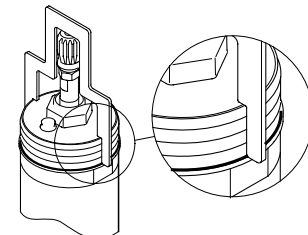

Fig. 22.
2. Screw the shaft end pos. 24 on to the motor shaft and push it home. Adjust the height to 88.15 mm \pm 0.2 mm by means of the measuring template I, see fig. 22.
4. Fit the supporting ring pos. 24a and the spline protector pos. 24b.
5. Fit the connecting piece pos. 14a and tighten using the pipe wrench N.
6. Fit the pump to the motor. The cable recesses in the suction interconnector pos. 14 and the connecting piece pos. 14a must be next to each other. Fit the four nuts pos. 19a and tighten diagonally to the correct torque, see 5.3.
8. Fit the cable guard pos. 18c and secure it with screws pos. 18a.
9. Fit the cable guard pos. 18 and secure with screws pos. 18b (25 SQF).